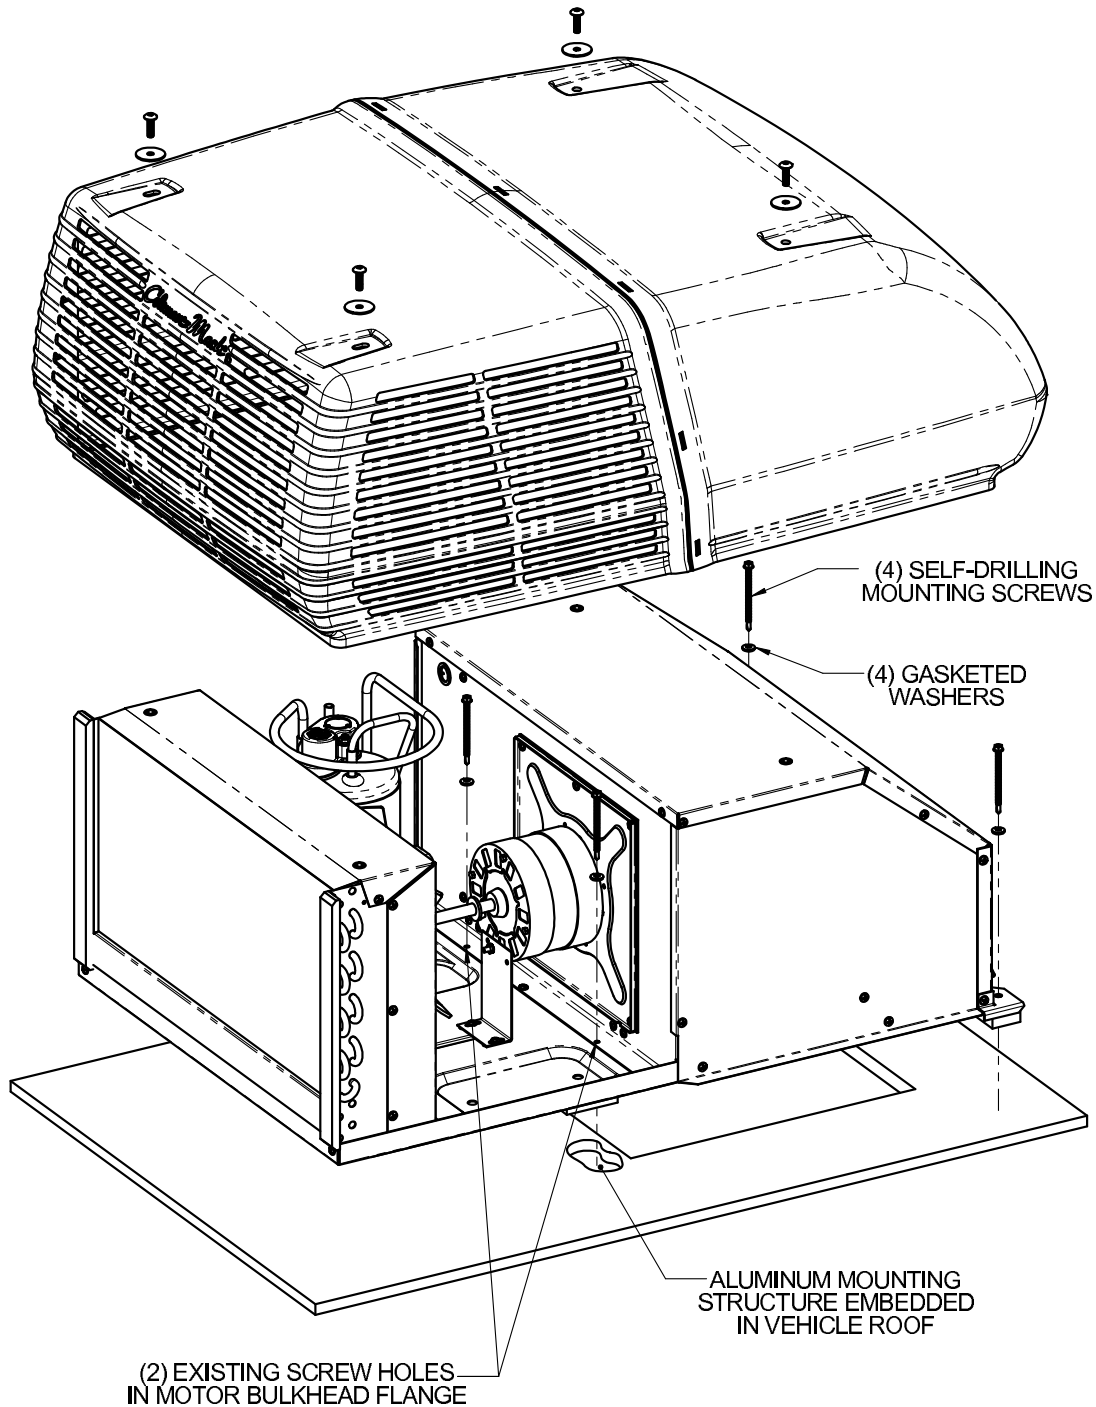

Figure 2
5. Remove the 2 sheet metal screws through the unit bulkhead flange as indicated in Figure 2.
7. Using 2 self-drilling screws and gasketed washers, run the screws down through the mounting braces, through the spacers and into the vehicle roof. Tighten screws just until the spacers pull down to the roof. Thread the remaining screws with gasketed washers through the bulkhead flange holes and tighten until the unit gasket has been evenly compressed. Use care to NOT STRIP the screws. See Figure 2.